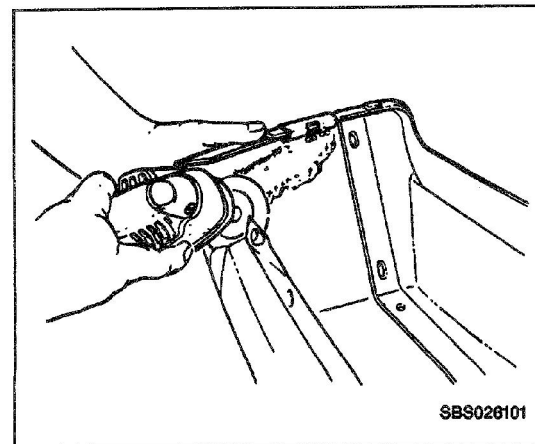

Figure 19—Sanding Back Side of Damage
2. Clean the underside of the repair area with a silicone, wax or grease removing solvent such as Prep-Sol, Acryli-Clean, Pre-Kleano, or equivalent. Apply with a water-dampened cloth and wipe dry. With a random orbit sander fitted with a #180 grit disc, remove the paint film in and surrounding the area to be filled (Figure 19). The repair material should not overlap the painted surface. Sand each side of the break with a #80 grit disc.